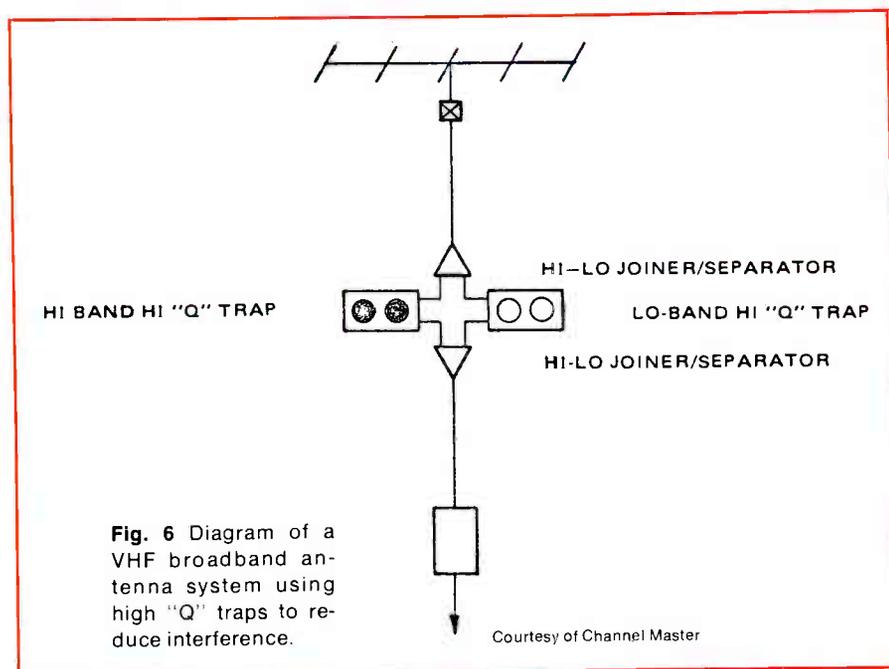
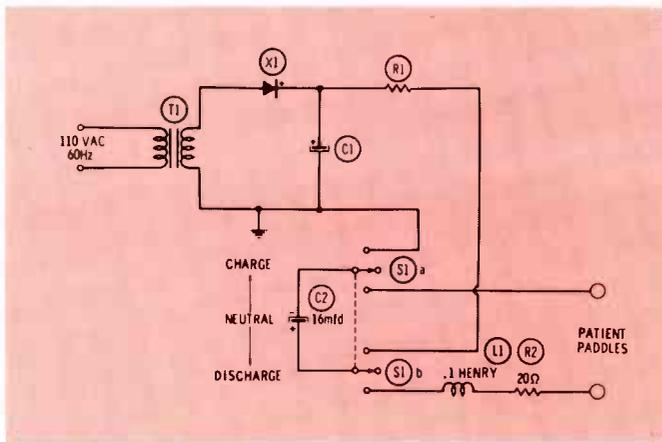
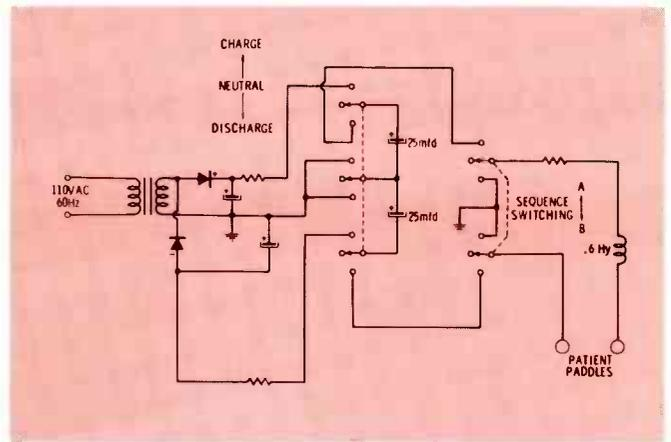
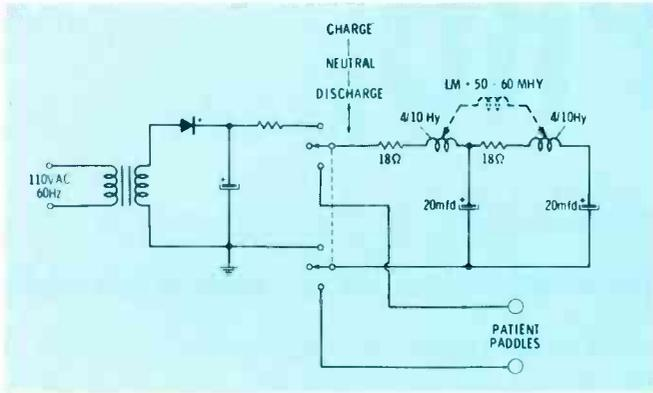

Fig. 6 Diagram of a VHF broadband antenna system using high "Q" traps to reduce interference.
Fig. 3 A simple capacitor-discharge defibrillator circuit.
Fig. 4 A more-recent defibrillator charges two capacitors for an alternate-polarity discharge.
Fig. 5 An extra RCL circuit produces a second voltage tip in this defibrillator.
It is always the strongest signal being received that causes the cross modulation. Reduction of the level of this one carrier might clear up the interference, or traps and filters (see Fig. 6) might be required to eliminate the overload.
Figure 3 is the schematic of a simple de-fibrillator. A diode rectifies the 60 Hz AC voltage from the transformer, C1 filters the DC voltage, R1 limits the charging rate
In a slightly more sophisticated de-fibrillator (Fig. 4), two capacitors are charged by separate rectifiers and a second switch for selecting the polarity of voltage and the instant of discharge is provided. Another variation, shown in Fig. 5, adds another RCL circuit to change the waveshape of the pulse. Waveforms of the three types of de-fibrillators are shown in Fig. 6.
Fig. 6 Waveforms produced by various defibrillators. (A) Waveform from the simple circuit of Fig. 3 is a simple pulse. (B) Waveform from the circuit of Fig. 4 shows first a positive then a negative
pulse discharge. (C) Circuit of Fig. 5 has a broadened pulse because of the coupling between the inductances of the RCL circuits.